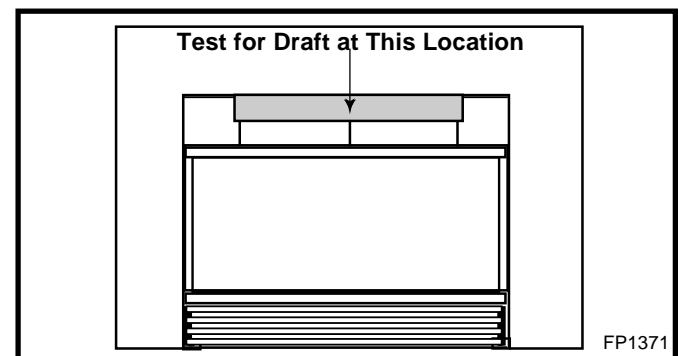

Fig. 11 Hold an ignited match in front of fireplace.
This insert is equipped with a draft-relief opening which receives its dilution air supply through the opening behind the louvers. These openings must not be obstructed or altered in any way. (Fig. 11)
3. Hold an ignited match or cigarette in front of the unit. Refer to Figure 11 for the location of the draft hood opening.